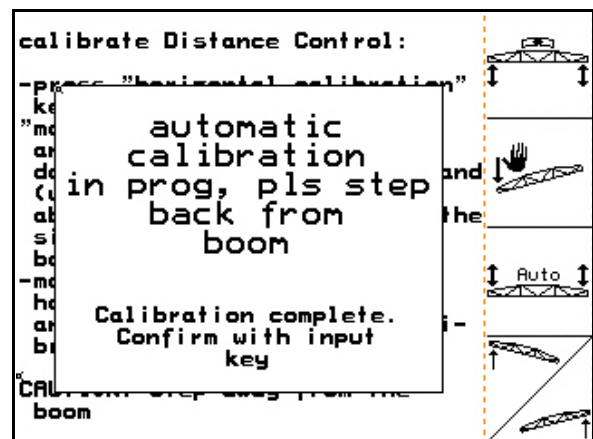

Fig. 20
- When the automatic calibration is ended, this is indicated by the computer (Fig. 20).